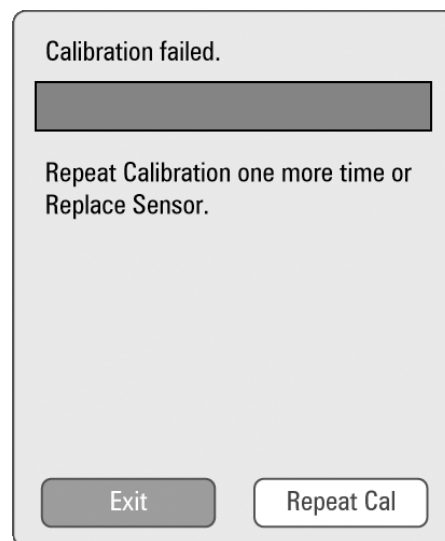

FIGURE 6-26 Oxygen Sensor Calibration Failed
- **If the calibration fails**, the screen shown in FIGURE 6-26 will be displayed, instructing the user to either repeat the calibration (by selecting the **Repeat Cal** button) or to replace the oxygen sensor. If the oxygen sensor must be replaced, select the **Exit** button, replace the oxygen sensor using a push and turn motion, and then repeat the calibration.